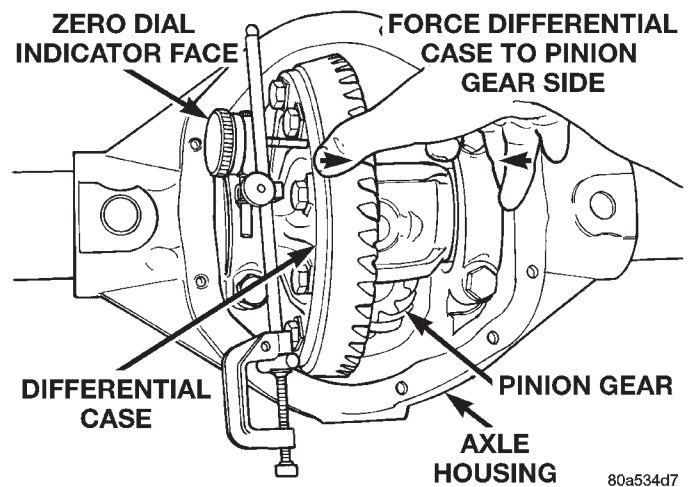

Fig. 67 Hold Differential Case and Zero Dial Indicator
(21) Push and hold differential case toward pinion gear (Fig. 67).
(22) Zero dial indicator face to pointer (Fig. 67).